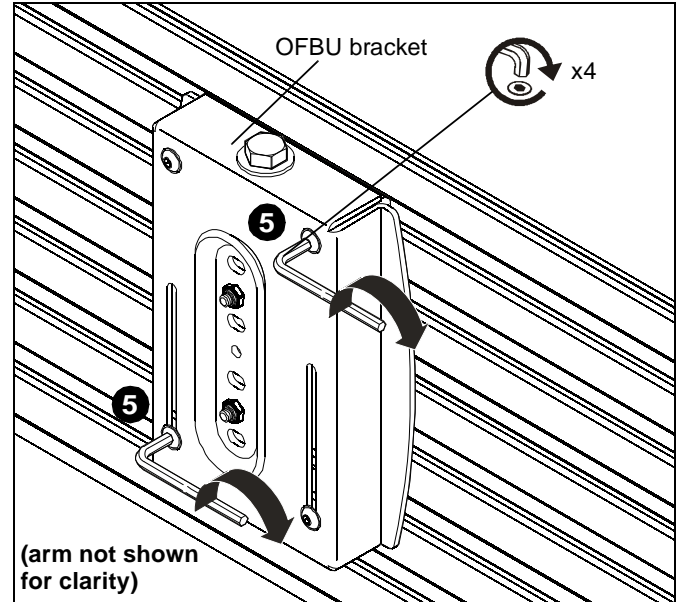

Figure 3
5. Tighten two upper and lower button head cap screws to secure OFBU bracket to wall. (See Figure 3)